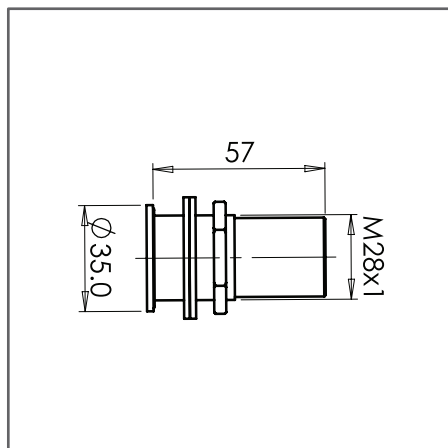

Fig. 2
- 4- Faça um furo na parede onde pretende colocar o sensor. (Ver fig. 2)
4. Drill a hole at the place where you want to install the sensor unit. (See Fig.2)